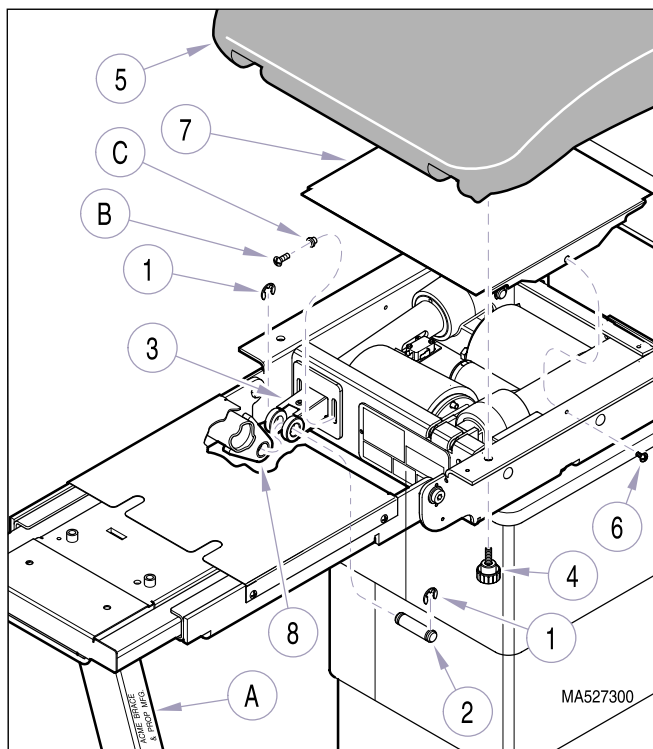

Figure 4-44. Foot Actuator Limit Switch Removal / Installation
- (1) Raise foot section to its maximum height; then place supports (A, Figure 4-44) under foot section.
- (2) Remove two klip-rings (1) and clevis pin (2).
- (3) Run FOOT DOWN function to retract foot actuator (3) as far as it will go.
- (2) Insert shaft end of foot actuator (9) thru hole in seat weldment (10).
- (3) Install clevis pin (6) and secure with two klip-rings (5); then install hole plug (4).
- (4) Connect two wires (2) to proper terminals of limit switch (3).
- (5) Secure ground wire (8) to foot actuator (9) with nut (7); then bundle wires and secure with two wire ties (1).
- (6) Install electrical cover (7, Figure 4-44), but do not secure at this time.
- (7) Plug table power cord into wall outlet.
- (8) Run FOOT UP function to extend foot actuator (3) until actuator shaft aligns with foot section weldment (8).
(11) Pull shaft end of foot actuator (9) thru hole in seat weldment (10) and rotate actuator to access bottom of limit switch bracket (11).
(12) Remove two screws (12), two nuts (13), and limit switch (3) from limit switch bracket (11).
- (11) Secure electrical cover (7, Figure 4-44) with two screws (6).
- (12) Install seat upholstery (5) and secure with four knobs (4).